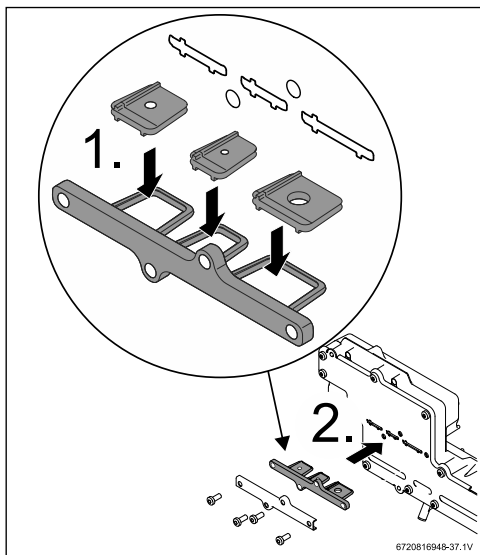

Fig. 49 199kBTU appliance gas conversion kit
- ▶ The 3 restrictor plates should be pre-assembled onto their tray, but if loose in box, follow installation instructions, as shown in Figs. 49 and 50 [1].
- ▶ Insert the LP conversion plate in the appropriate location shown in Figs. 49 and 50 [2].
- ▶ All three flow restrictors and seal must be assembled according to the Fig. 49, to assure correct appliance performance.